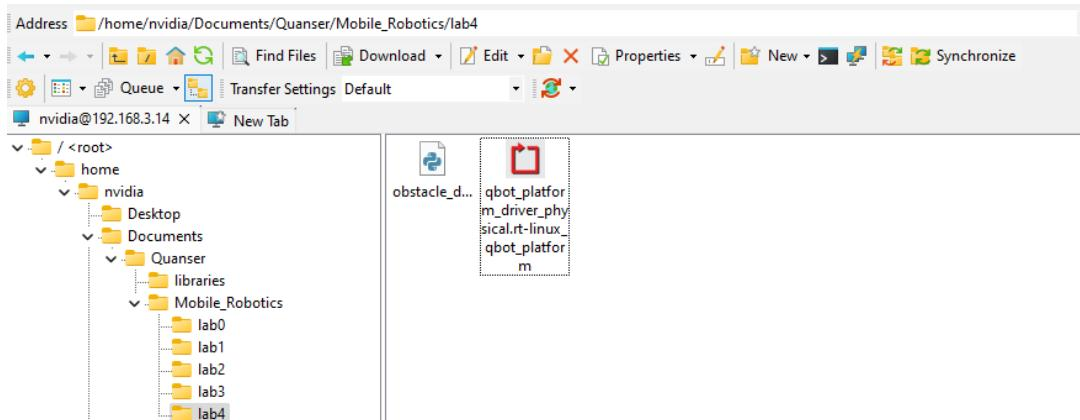

Figure 3. Correct directory for python script
- a. navigate to "`~\Documents\Quanser\Mobile_Robotics`" and create a new folder "`Lab4`", as shown in Figure 3. Then copy the updated `obstacle_detection.py` to "`Lab4`". In addition, copy the `qbot_platform_driver_physical.rt-linux_qbot_platform` over. (You can just drag the files over).